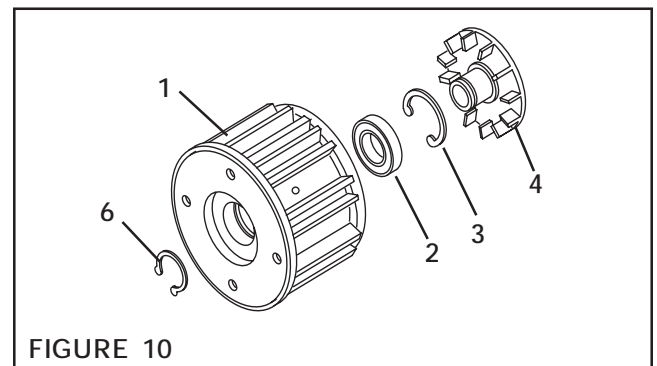

FIGURE 10
2. Remove the Retaining Ring (Item 6) and press the Drive Disc (Item 4) out of Housing (Item 1) (See Figure 10).
3. Remove Retaining Ring (Item 3) (See Figure 10).
4. Fully supporting the Housing (Item 1), press the old Ball Bearing (Item 2) out of the Housing (See Figure 10).
5. Clean the bearing bore of the Housing (Item 1) with fresh safety solvent, making sure all old Loctite® residue is removed (See Figure 10).
6. Apply an adequate amount of Loctite® 680 to evenly coat the outer race of the new Ball Bearing (Item 2) (See Figure 10).
7. Carefully align the outer race of the new Ball Bearing (Item 2) with the bore of the Housing (Item 1) (See Figure 10).
8. Supporting the Housing (Item 1) and pressing on the outer race of the new Ball Bearing (Item 2), press the new Ball Bearing into the Housing (See Figure 10).
9. Reinstall Retaining Ring (Item 3) (See Figure 10).
10. Support the inner race of the new Ball Bearing (Item 2) and press Drive Disc (Item 4) into the new Ball Bearing and Housing (Item 1) (See Figure 10).
11. Reinstall Retaining Ring (Item 6) (See Figure 10).